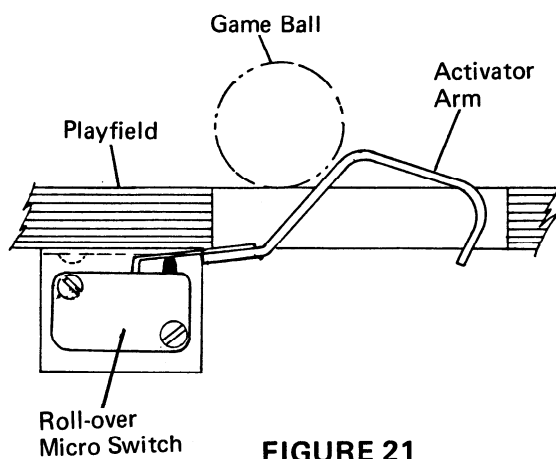

FIGURE 21
28. Adjust Rollover Switch: (Figure 21). The switch should click when pushed down by the ball and click again when released. To adjust switch bend switch arm up or down as required.